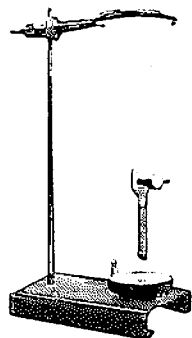

Figure 1
Step 2. Set up the ring stand as shown in Figure 1; fill one of the aluminum dishes half full of water (tap water is satisfactory).